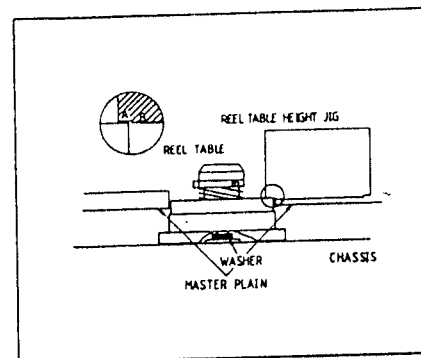

Fig. 1 Reel Disk Height
1. Follow the procedure for removing the panels. (See Figs. 1 to 3)
3-2. Reel Disk Heights (Fig. 1)
Check turntable heights by installing the Master Plain. Set the Reel Disk Height Jig in place and check the height of the supply and take up turntables. (See Fig. 1.)
Note: For proper height point "A" should slide over the reel disk and point "B" should not. (Fig. 1)